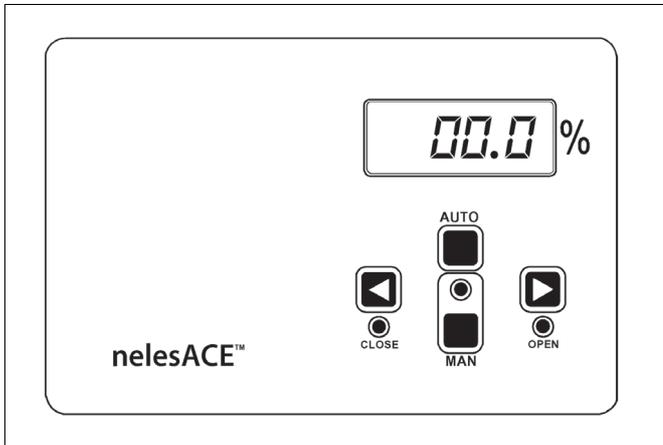

Fig. 15 Control panel
The display is calibrated with the trimmer potentiometers of display card (216), Fig. 15. Potentiometers are marked as "SPAN" (R9) and "ZERO" (R14). When the valve is in the closing position and the current is 4 mA the display is adjusted with ZERO-potentiometer to 00.0 %. Current value is measured from the pins 2 and 3 in connector X5 in connector card. When the valve is in the open position the display reading is adjusted with SPAN-potentiometer to 100.0 %.